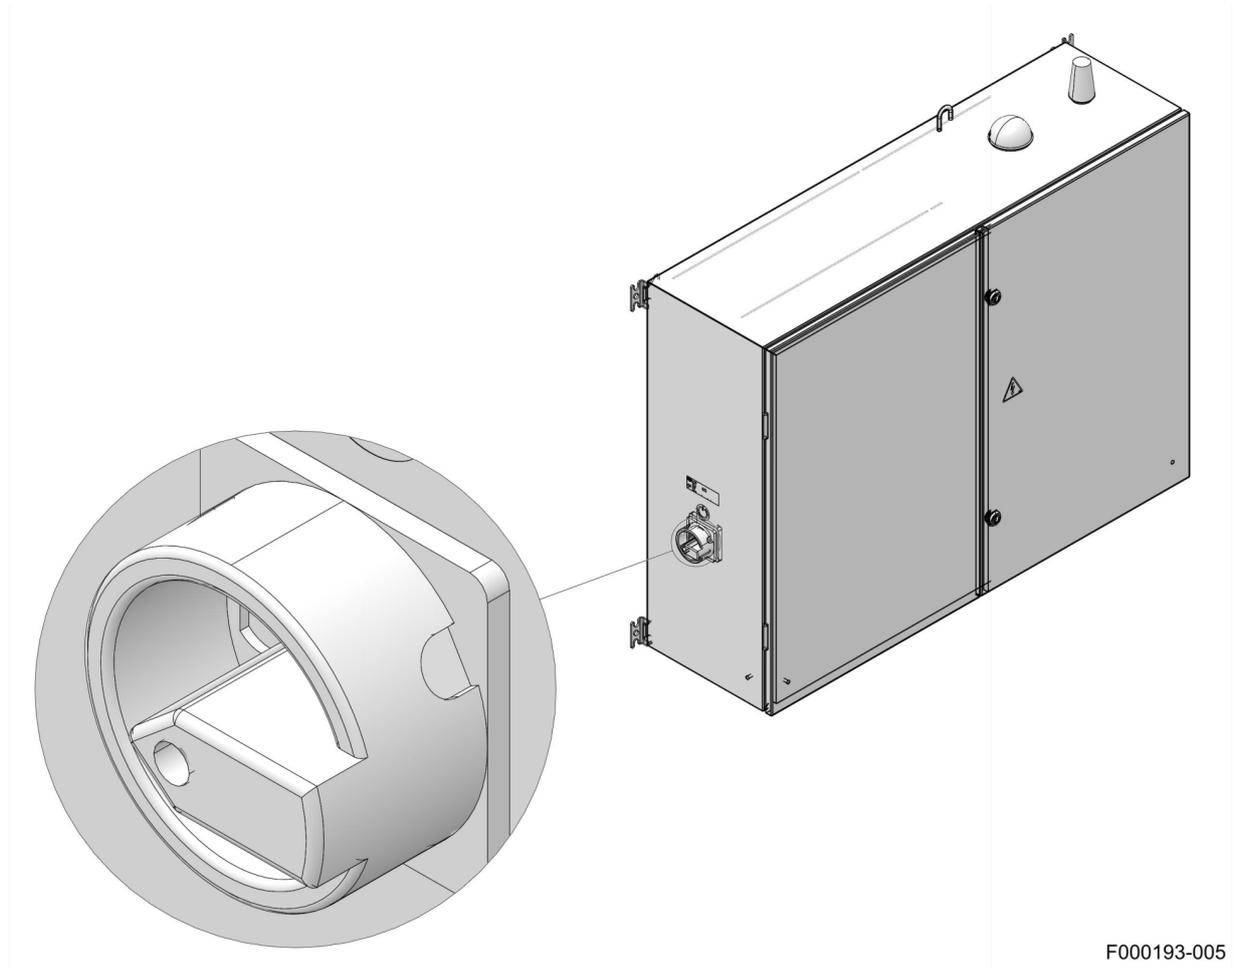

Figure 34. Main switch on the power distribution box
1. Set the main switch to Off (see figure 34 on page 5-8) on the power distribution box.
2. Set the power supply switch (see figure 34 on page 5-8) in the position “1” on the power distribution box.